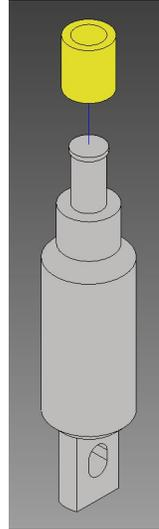

FIGURE F. 11. - INDICATOR INSTALLATION
1. OPTIONAL – If required, install the indicator (see Figure F.11.). Typically, this is only required if indicator is missing or needs replacement.